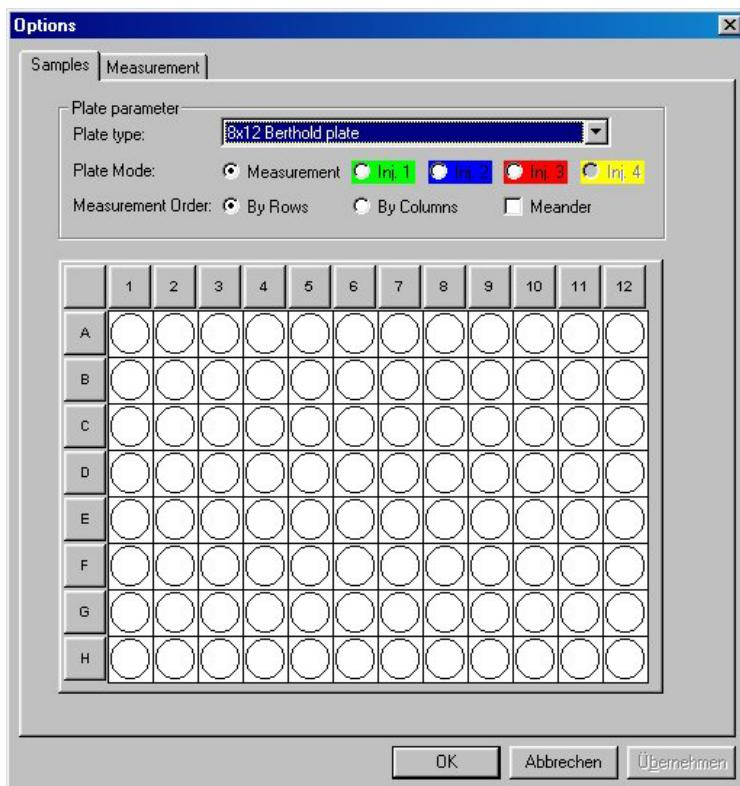

Figure 5-27: Options dialog box, Samples tab
- As soon as you have set up the **Mithras** driver, click the **<Options>** button to open the **Options** dialog box with the **Samples** and **Measurement** tabs (Figure 5-27).